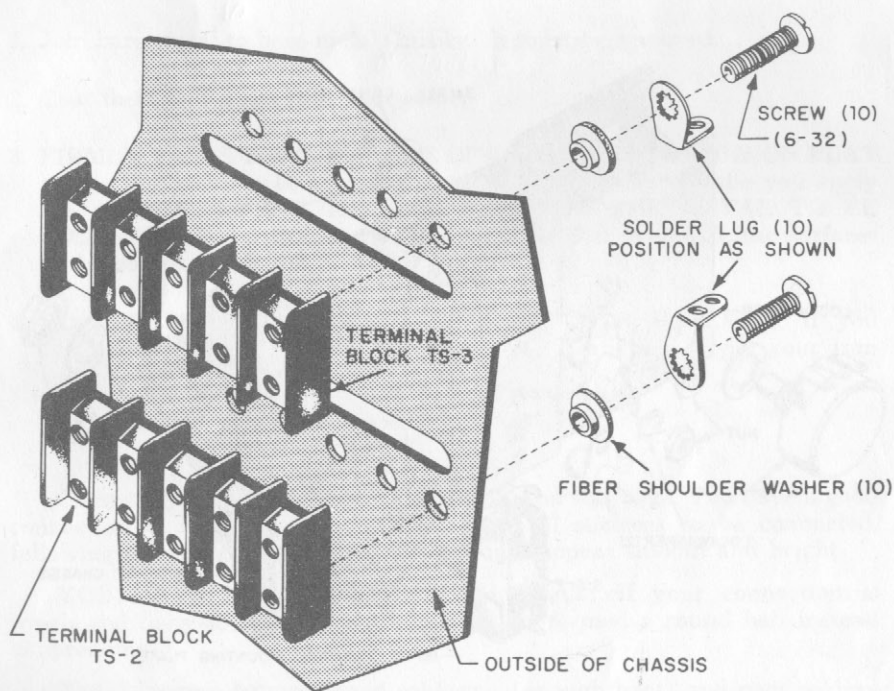

FIGURE 8. MOUNTING THE TERMINAL BLOCKS
- ☑ From outside the chassis, mount TS-2 and TS-3, terminal blocks with ten threaded holes in each. Use five 6-32 screws, solder lugs and small fiber shoulder washers to mount each block, as shown in Figure 8. Be sure to position the solder lugs exactly as shown. The fiber shoulder washers must be firmly seated in the holes in the chassis.